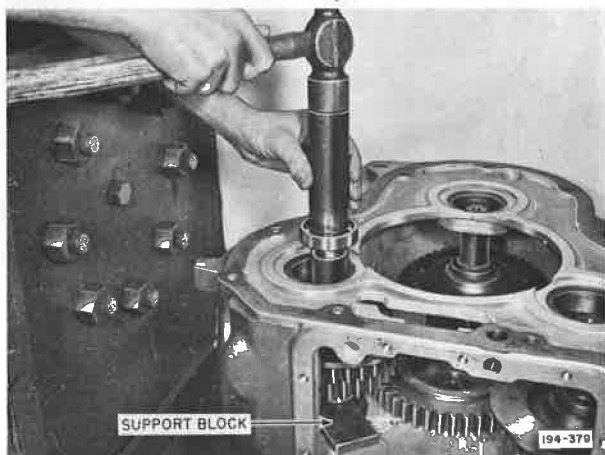

Figure 5-164. Installing Compound Counter-shaft Rear Ball Bearings
10. (TRDXL1070) Place steel support block under forward end of each compound counter-shaft. Use a tubular driver and install rear bearing on rear end of compound counter-shaft. See Figure 5-164.